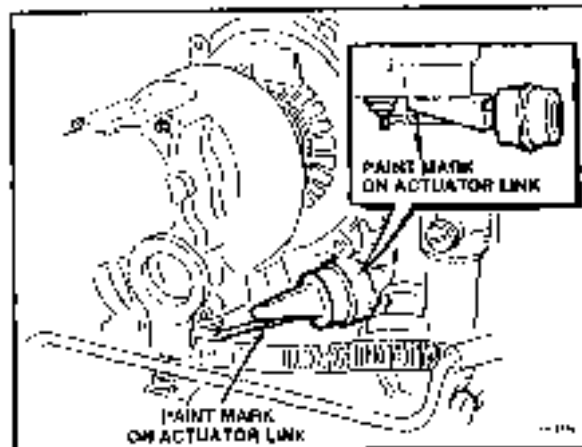

Figure 2.3-17. - Paint Mark Location on Actuator Link
2. Mark actuator (link) shaft with paint pen. Figure 2.3-17.